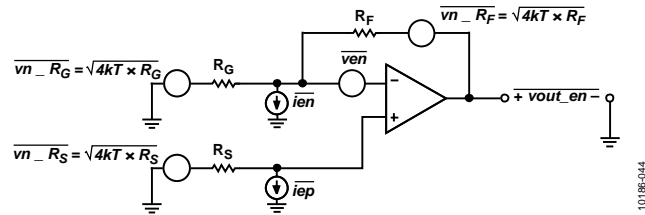

Figure 48. Noise Sources in Typical Gain Configurations
Figure 48 illustrates the primary noise contributors for the typical gain configurations. The total rms output noise is the root mean square of all the contributions.
*RF* and *RG* are the feedback network resistances, as shown in Figure 48.
*RS* is the source resistance, as shown in Figure 48.